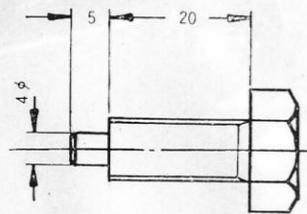

Fig. 9-21
- 2) Fix the control rack in position with the fixing bolt: Remove the control sleeve and fix the control rack in position after it is slid 9mm from "0" point in direction in which the amount of fuel delivery increases. The control rack may be fixed in position by removing the control rack screw in the reverse side of the pump body and inserting the fixing bolt (See Fig. 9-21) into place.